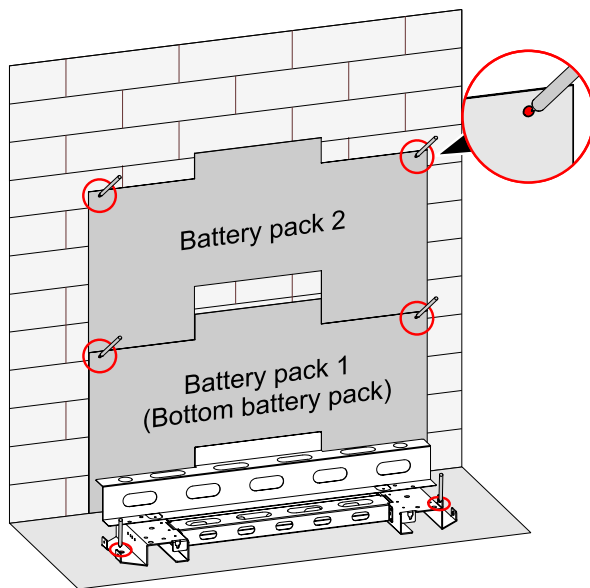

Figure3-13 Mark the installation holes
1. Mark the installation holes, as shown in Figure3-13.
- The grounding of the inverter and the lightning rod of the building that inverter installed cannot be the same, the two need to be separated (as shown in Figure3-13), or, lightning stroke will damage the inverter.